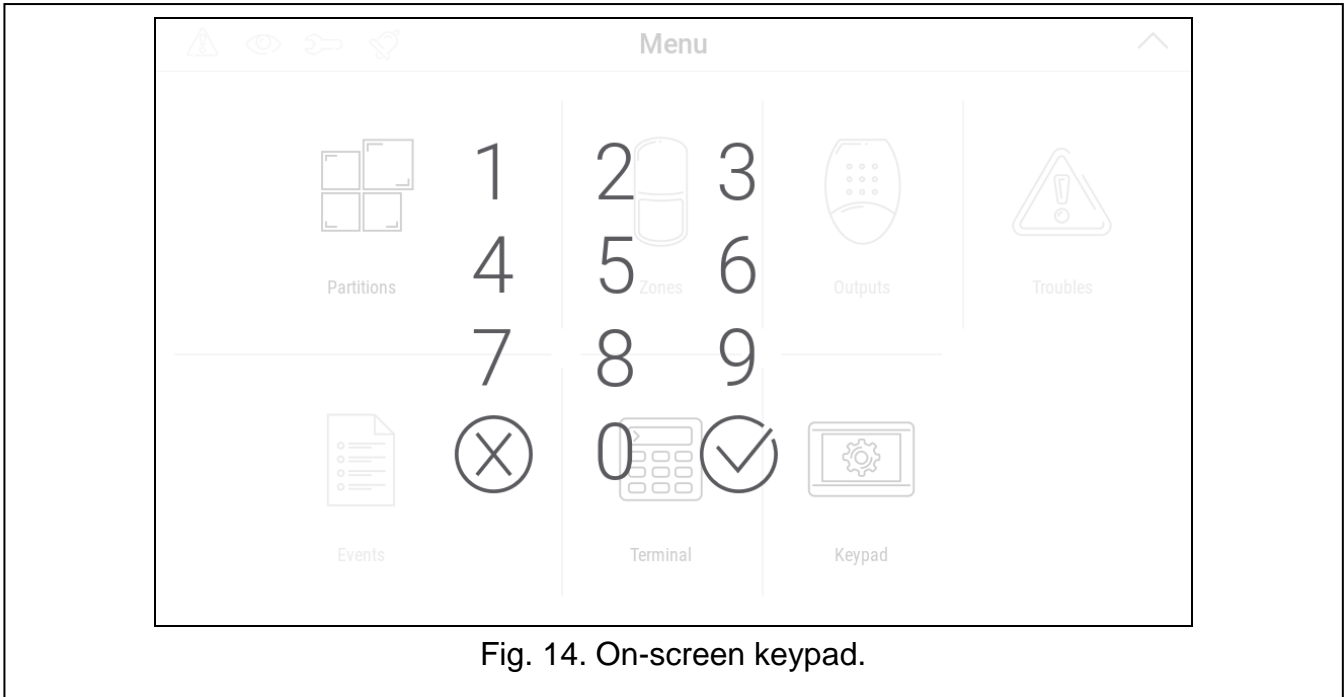

Fig. 14. On-screen keypad.
2. Swipe the screen up. The on-screen keypad will be displayed (Fig. 14).